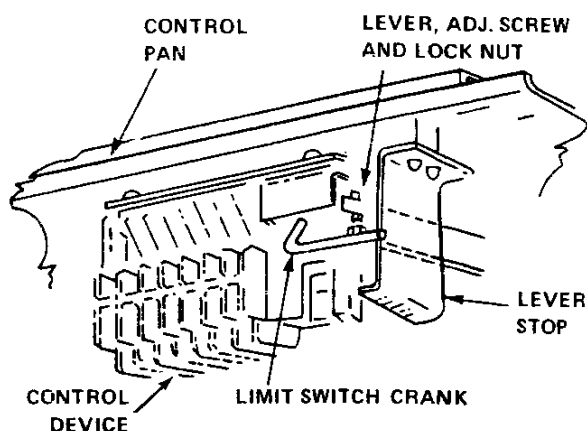

Fig. 7 — Control Relay
5.10 CONTROL RELAY ADJUSTMENT (See Figure 7)